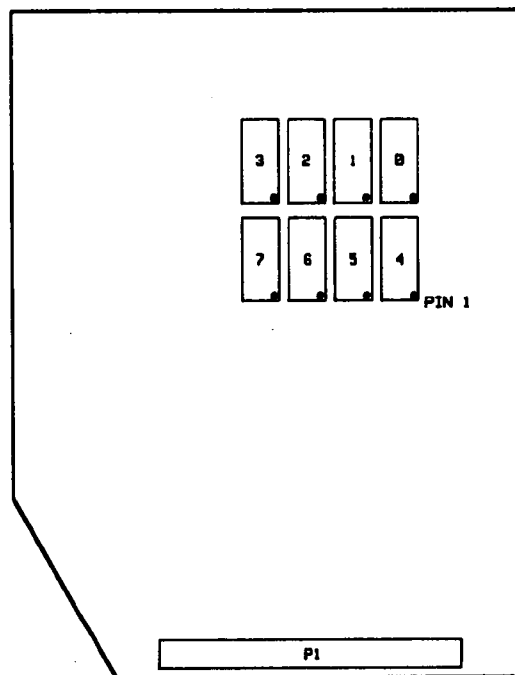

Figure 5. ROM Locations
- 10) Install the eight ROMs from the upgrade kit. Figure 5 shows the proper order of installation.